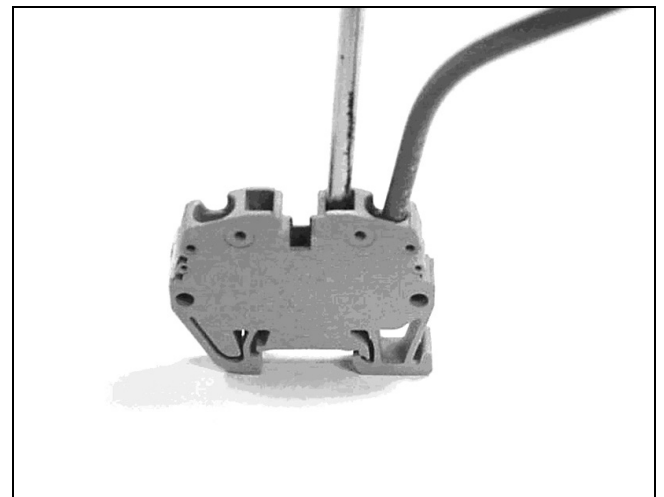

Figure 25. Wire Inserted in the "Wire" Hole.
Step 3: Once the screwdriver is in place, obtain a stripped wire (strip about 0.25 in.) and insert it into the larger circular wire hole. Push the wire in until it can go no further (see Figure 25).